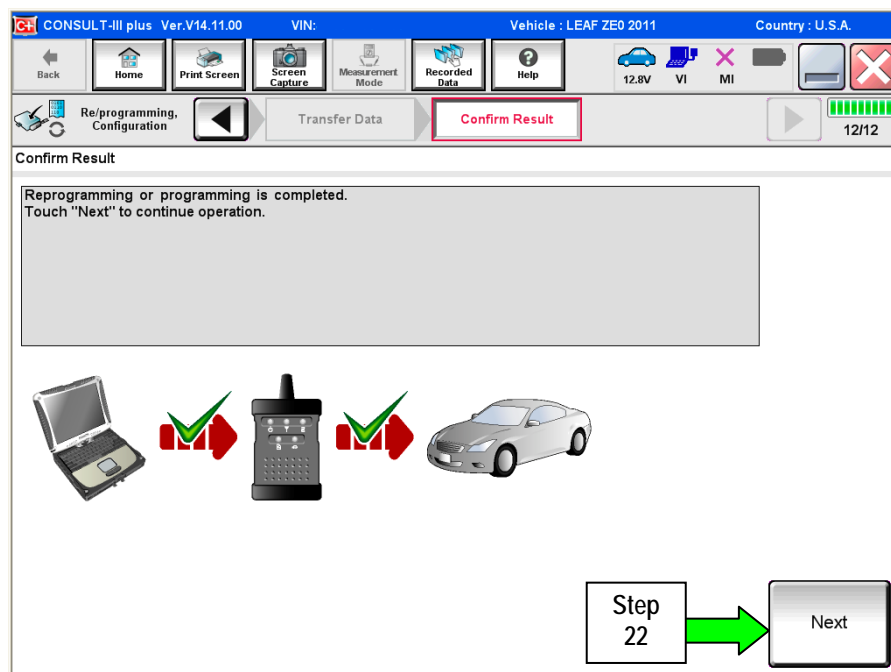

Figure 18
21. When the screen in Figure 18 on page 13 displays, the reprogramming is complete.
NOTE: If the screen in Figure 18 is not displayed (reprogramming is not complete), refer to the information on the next page.